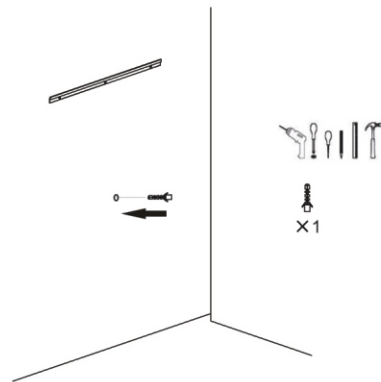

Fig. 5
- 2.2 Remove the mirror cabinet, drill the fixing hole in the wall in the marked position, and place the expansion plugs (Fig. 5).